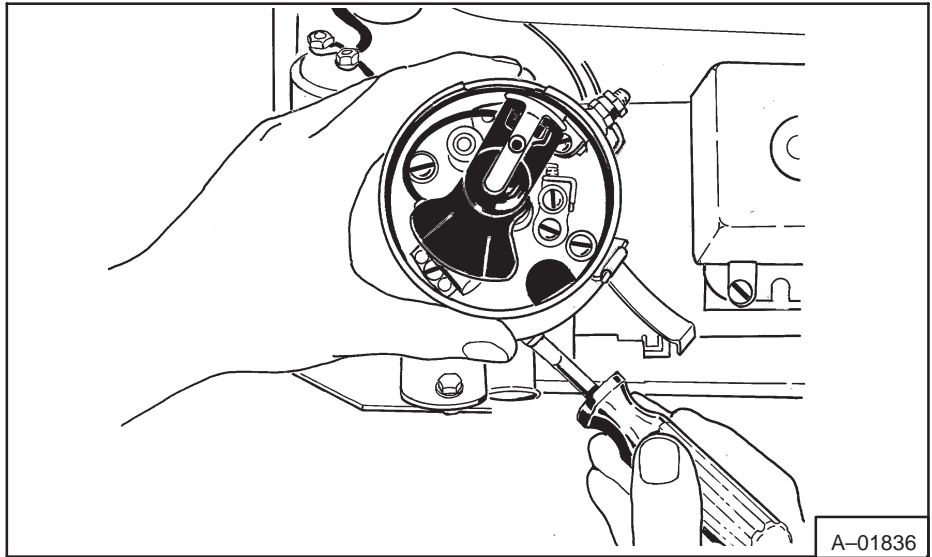

Fig. 1-29 Distributor Maintenance
4. To adjust timing, loosen the distributor clamp screw and turn the distributor body until timing is correct (Fig. 1-29).
1. Turn the engine over by hand until the breaker arm block is on a high point of cam (Fig. 1-29).
2. Loosen the stationary contact lock nut and turn screw in or out until contact gap is correct (Fig. 1-29).
3. Tighten the lock nut and check gap (Fig. 1-29).